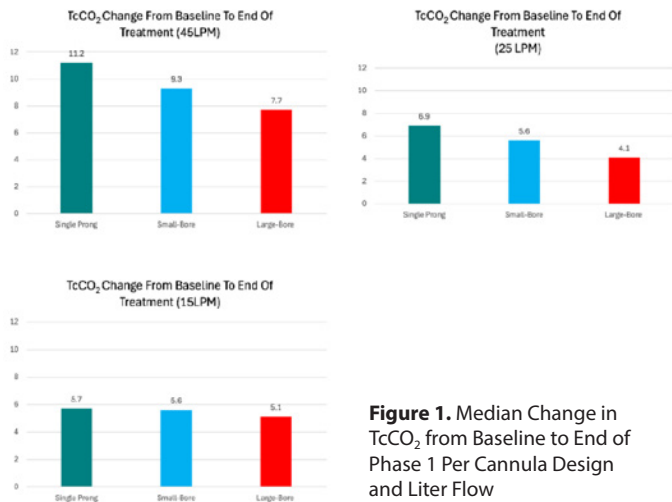

Figure 1. Median Change in TcCO₂ from Baseline to End of Phase 1 Per Cannula Design and Liter Flow
3. **Repeat at Different Flow Rates and with Different Cannulas:** Each volunteer repeated the experiment using a small-bore cannula, large-bore cannula, or a single prong cannula, each at 3 different flow rates (15 L/min, 25 L/min, and 45 L/min). (Figure: 1)
In this demonstration, we flushed the upper airways but asked the volunteer to keep their respiration rate the same (unfortunately, we could not control tidal volume). Since the body's natural reflex was blunted, the flush of CO₂ could be observed. Notice the impact of the different cannulas (Figure 1).